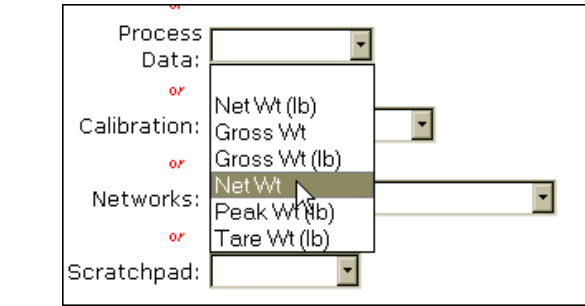

FIG. 285: MAPPING PAGE 2 SELECTING NET WEIGHT
Step 35. Click on the Process Data pull down list. (See Fig. 285)